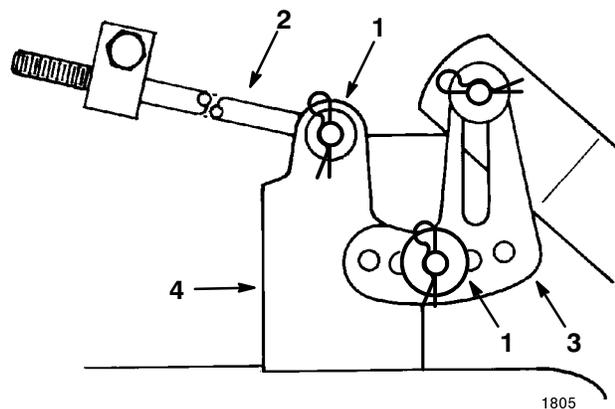

Figure 49
- Remove the hair pin cotter and washer from the leveling bracket (Fig. 49). To level the blade(s), reposition the leveling bracket in a different hole and install the washer and hair pin cotter. (Fig. 49). A front hole lowers the blade height and a rear hole raises its height. Repeat this procedure on the opposite side.